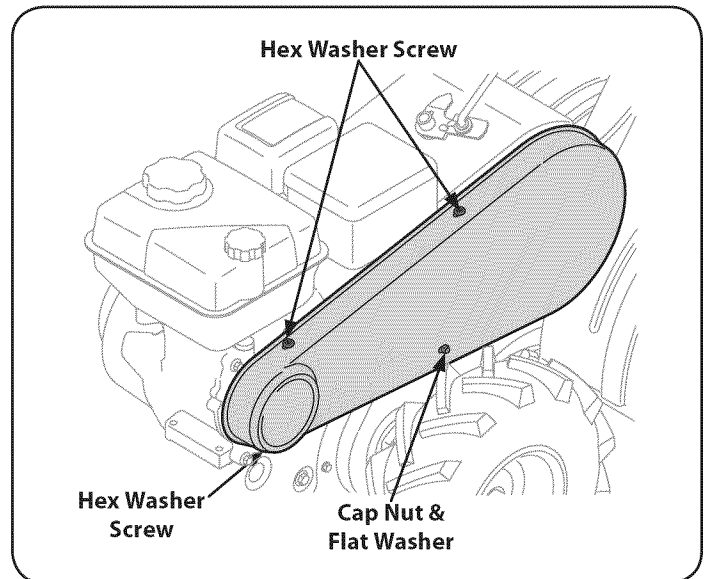

Figure 27
1. Remove the belt cover from the left side of the tiller by removing the two hex washer screws from the top of the belt cover. See Figure 27.
2. Remove the cap nut and flat washer from the front side of the belt cover. Remove the hex washer screw at the back of the cover. See Figure 27.
4. Remove the idler pulley by removing the bolt and nut. See Figure 27.
5. Remove the old belt and install the new belt. Follow the instructions in reverse order to re-install the belt keeper and belt cover. See Figure 27.